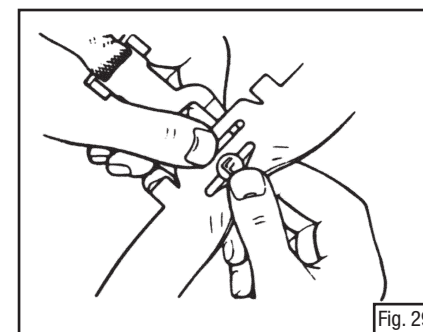

Fig. 29
- After adjusting the orientation of the headgear, check the position of the headband around the head. If the position of the headband does not feel comfortable and secure, the front and rear height can be adjusted independently by relocating the buttons in the slots that connect the cradle assembly to the headband. Adjusting the headband position does not affect the height that the headgear rests above the head. The cradle suspension is not adjustable (Fig.29).